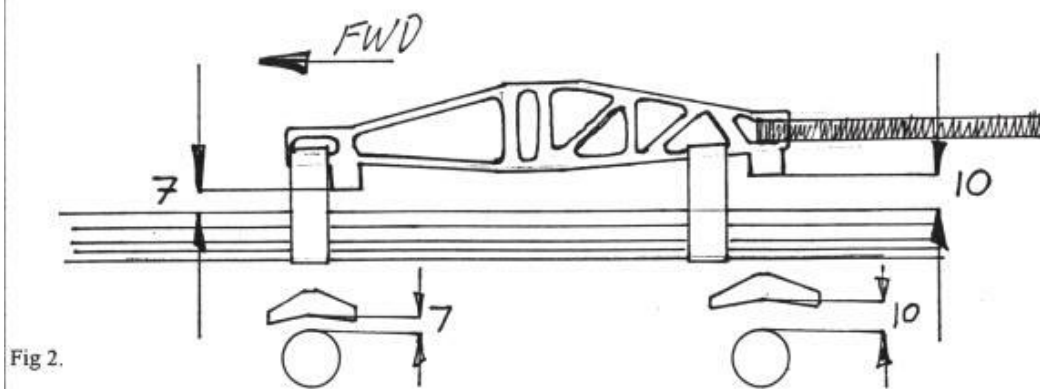

Fig 2.
2) Adjust the straps between the keel and the cross-boom leveller until the gaps between the keel top surface and the leveller saddles are $7\text{mm} \pm 1\text{mm}$ (front) and $10\text{mm} \pm 1\text{mm}$ (back) when the straps are tight, as shown in fig 2. Do not increase the front gap more than specified as the mid-span washout rod setting will be adversely affected. If you think the setting has moved, check the mid-span washout rod height as defined in the pilot's handbook. The effect of lengthening the straps is to allow the keel to float sideways as intended, in response to roll inputs, so allowing the sail twist to move assymmetrically across the span.